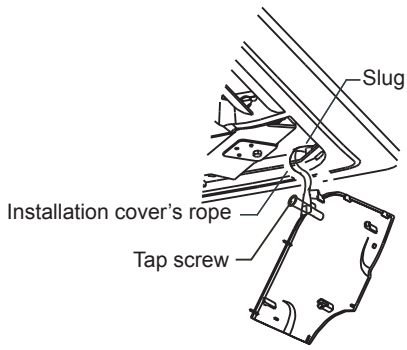

Fig.4-20
- 1) Fasten the rope of the installation cover on the bolt of the installation cover. (Refer to Fig.4-20)